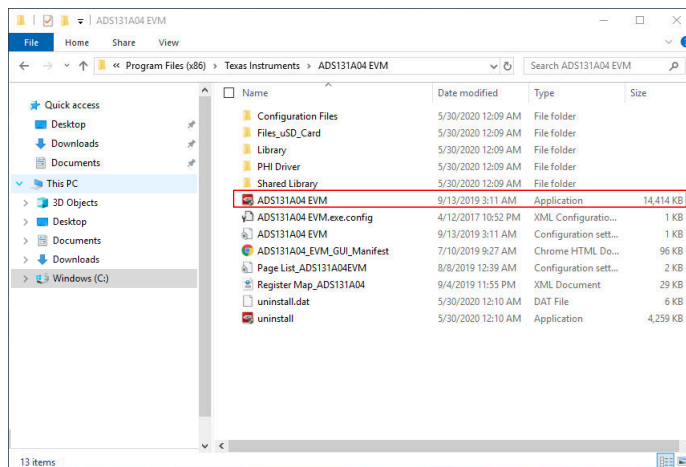

Figure 2-2. Launch the EVM GUI Software
4. Launch the ADS131A04EVM GUI software as by clicking the ADS131A04EVM executable shown in Figure 2-2.